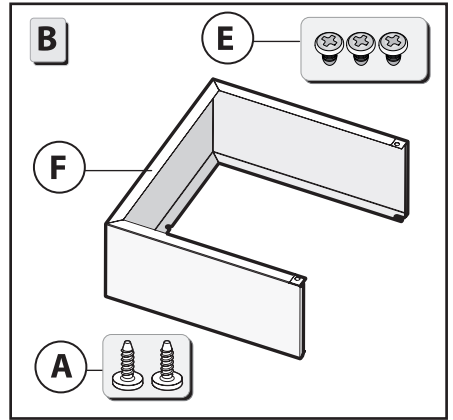

Fig.6
- This hood can be equipped with an aesthetic flue (optional) Fig. 6 (contact your dealer to request it).